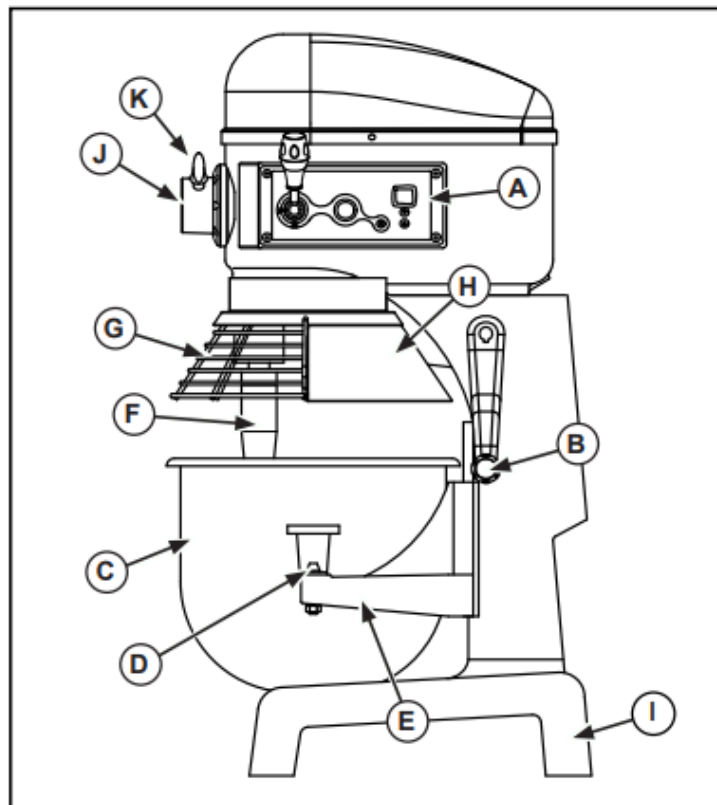

Figure 2. 20 Quart and 30 Quart Mixers, Features and Controls.
1. Close the bowl guard (G). See Figure 2. The safety guard must be closed for the mixer to operate. If the safety guard is open or not closed properly then the mixer will not operate.